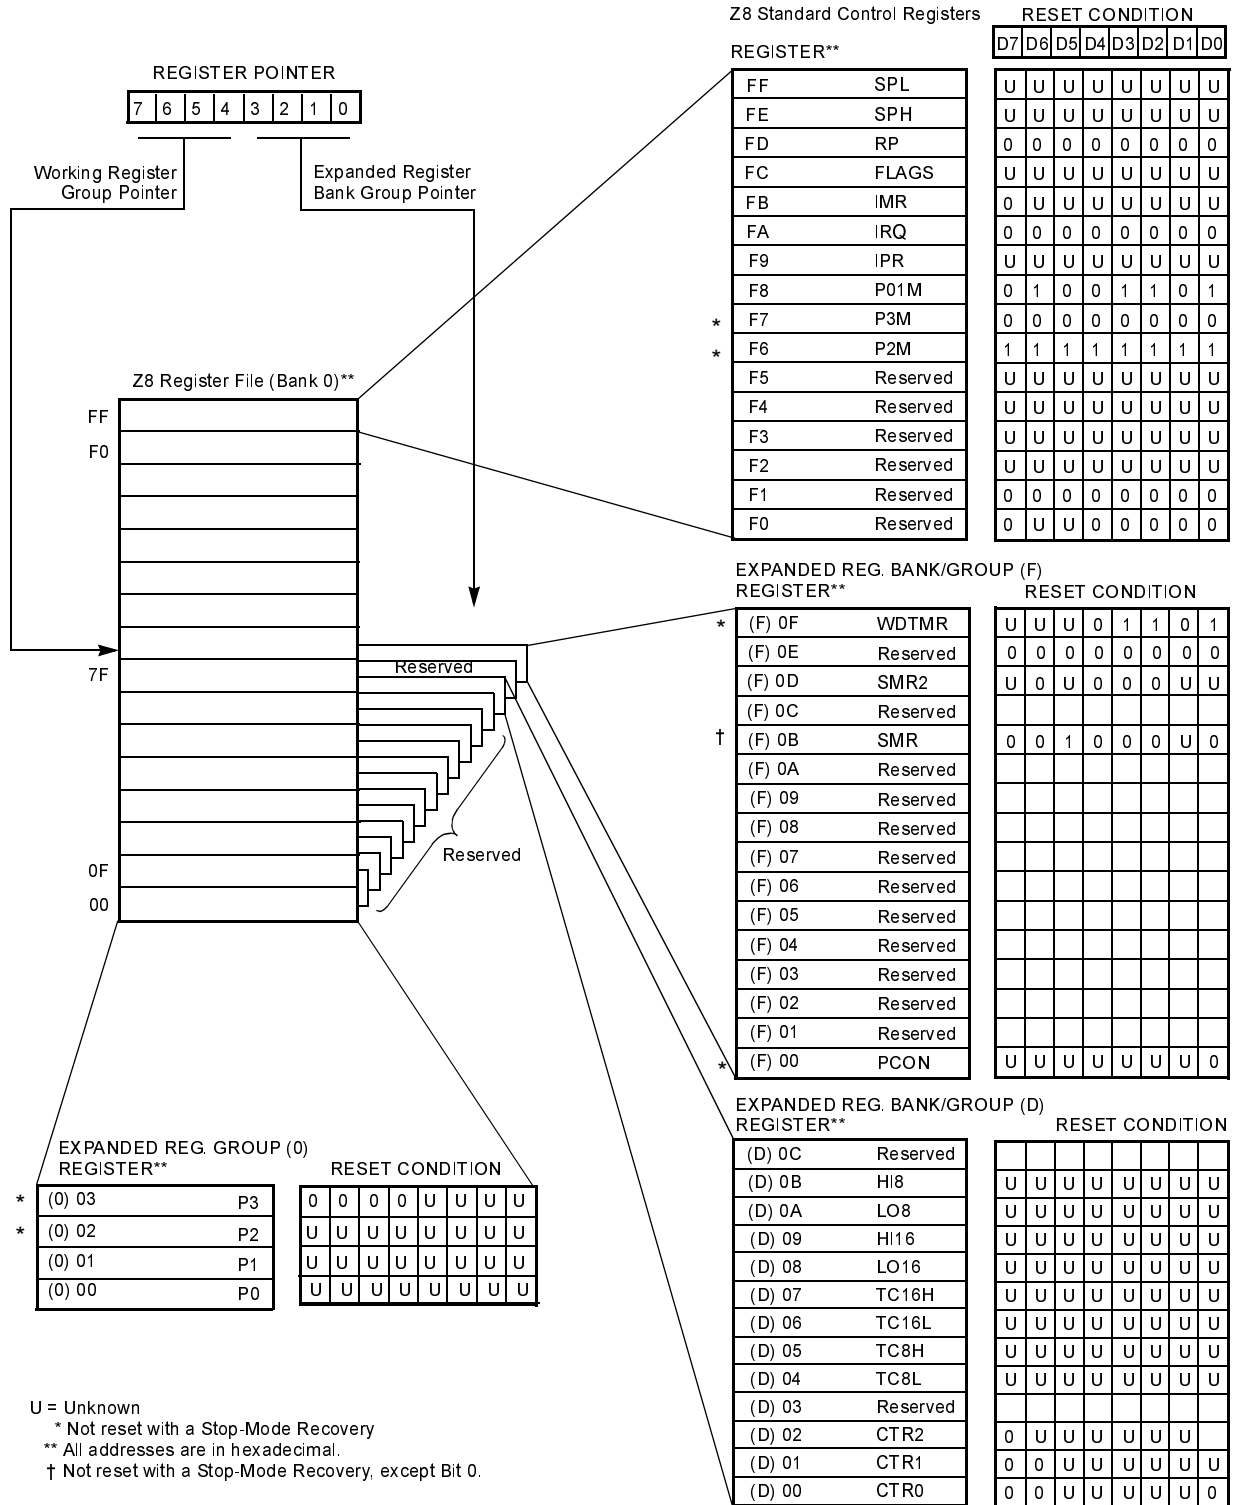

Figure 22. Expanded Register File Architecture
- **Note:** The expanded register bank is also referred to as the expanded register group (see Figure 22).
For example, Z86E73 (see Figure 22):